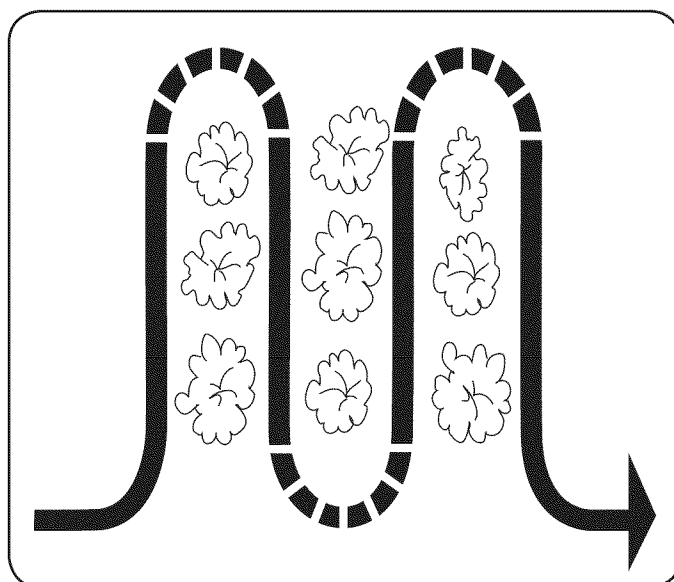

Figure 17
- When cultivating (breaking up the surface soil around the plants to destroy weeds, See Figure 17), adjust the tines to dig only 1" to 2" deep. Using the shallow tilling depth helps prevent injury to the plants whose roots often grow close to the surface. If needed, lift up on the handlebars slightly to prevent the tines from digging too deeply. (Cultivating on a regular basis not only eliminates weeds, it also loosens and aerates the soil for better moisture absorption and faster plant growth.) Watering the garden area a few days prior to tilling will make tilling easier, as will letting the newly worked soil set for a day or two before making a final, deep tilling pass.